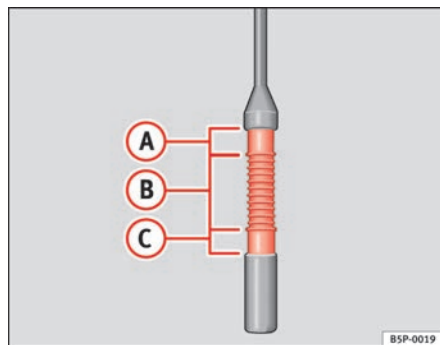

Fig. 123 Engine oil dipstick.
- Then pull it out once more and check the oil level ⇒ fig. 123. Top up with engine oil if necessary.